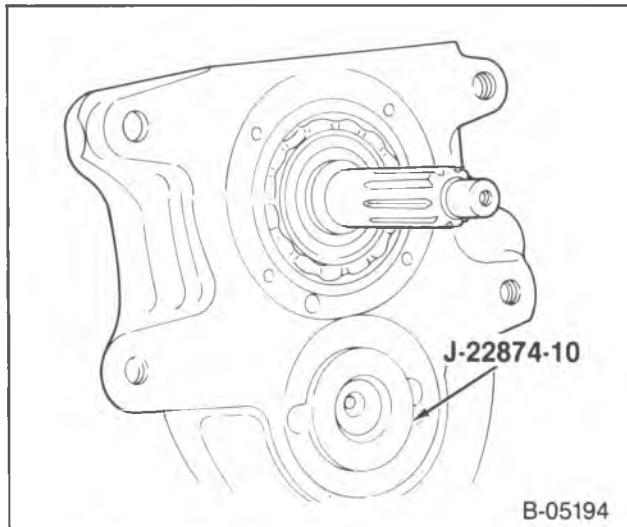
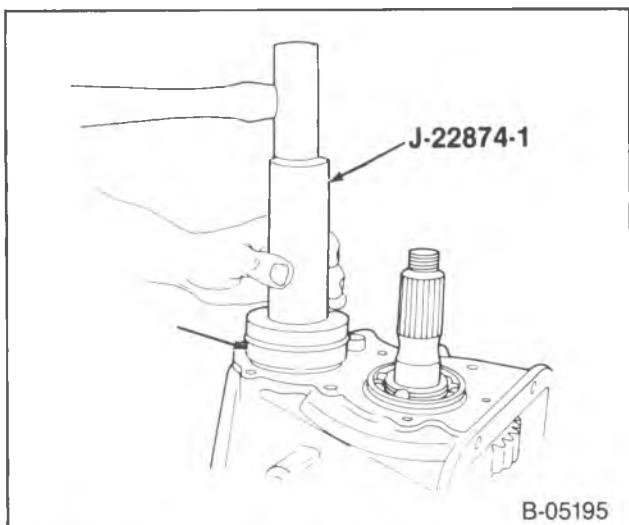

Figure 56—Tool J-22874-10 Installed
Figure 57—Installing the Countergear Rear Bearing
- 7. Bearing retainer (202) and a new gasket.
- 8. Countergear rear bearing (228).
- Support the front of the countergear using J-22874-10, (figure 56).
- New snap ring (225) onto the bearing.
- Drive the bearing onto the countershaft until the snap ring is flush with the case, using J-22874-1, (figure 57).
- 9. New bearing retainer snap ring (226).
- 10. Countergear front bearing (237).
- 11. Cover (238) and a new gasket.
- 12. Speedometer gear (219).
- 13. Rear bearing retainer (223) and a new gasket.